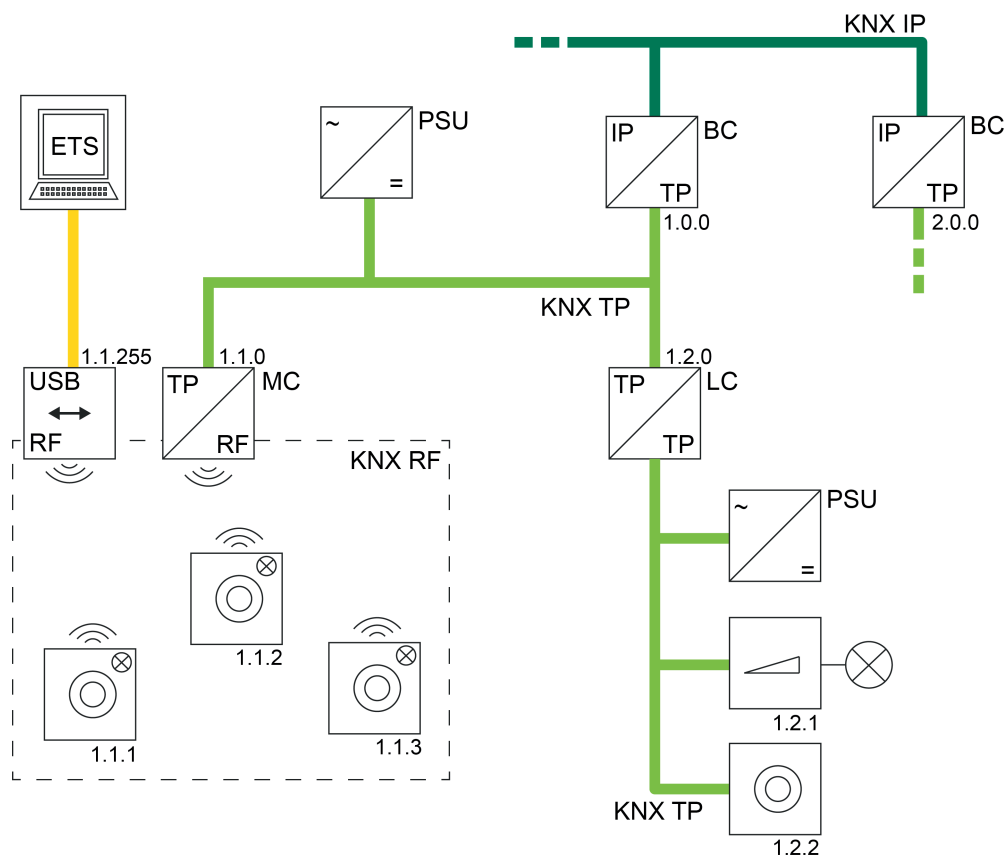

Figure 20: Example of a possible KNX topology with a KNX RF USB data interface
- Use of a KNX RF USB data interface (Figure 20):